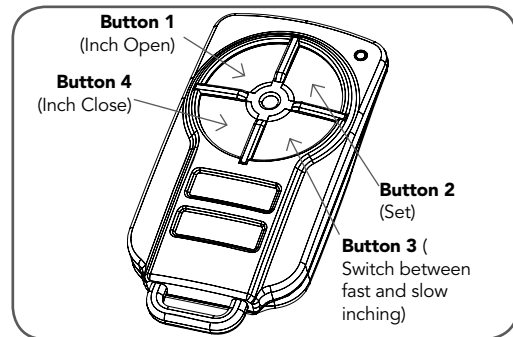

fig 23
- Press Button 1 on the transmitter for two seconds (Fig. 23). Release and pause for two seconds. Press the same button again on the transmitter for two seconds.
- Press and hold Button 4 on the transmitter to close the door. When the door is approx. 2cm from the ground, press and hold Button 3 for two seconds and release (Fig. 23).